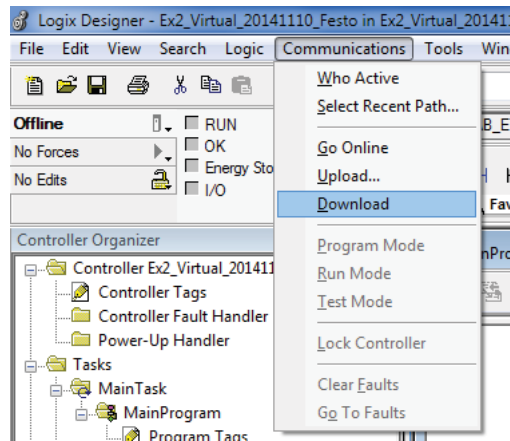

Figure 111. Download.
23. Now that your program is entered and saved, it is time to download it to the PLC. Providing that your network is properly configured (see Exercise 1), open the *Communications* menu and select *Download* (Figure 111).